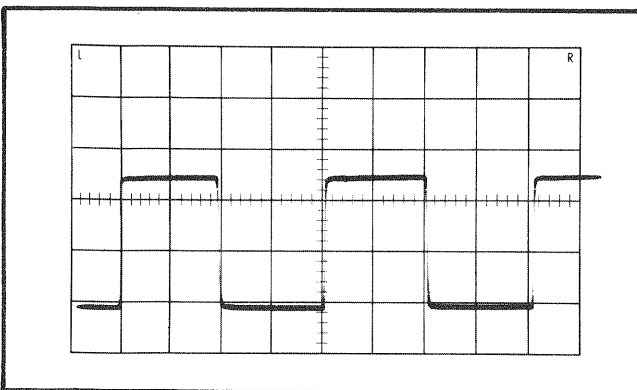

Fig. 2-4. Oscilloscope display of .2 μ s pulse duration, .4 μ s period and 5 V pulse amplitude.
PULSE MODE Switch Selects the following pulse output modes (illustrated in Fig. 2-4):
5. Adjust the test oscilloscope triggering, positioning and CRT controls to obtain a stable display of the output pulse (see Fig. 2-4).